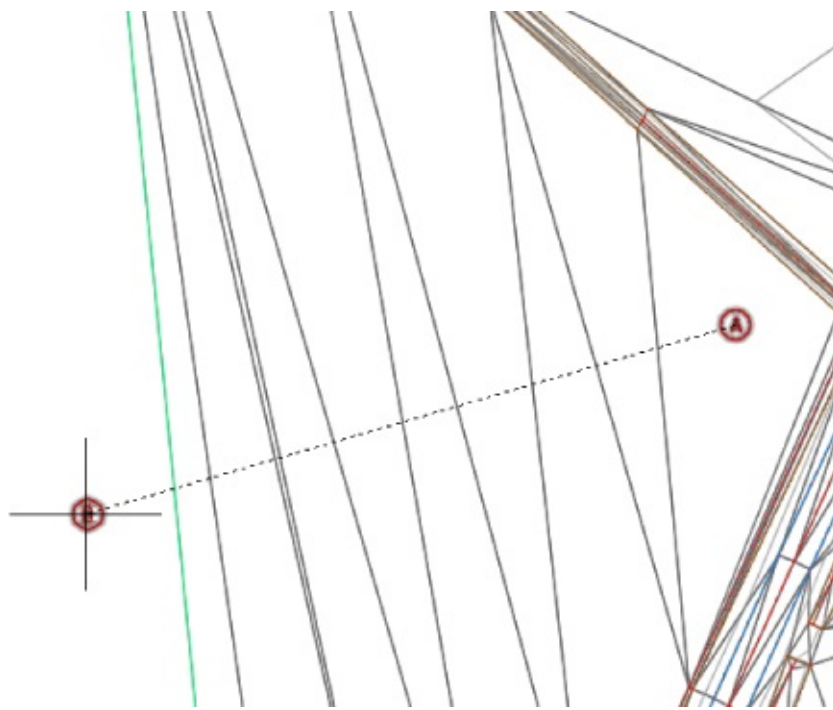

Figure 4.32 Using a Fence selection
5. Pick close to the center of the circle labeled A at the northwest corner of the site, as shown in Figure 4.32; move to the left as shown; pick toward the center of the circle labeled B; and press ↵ twice.